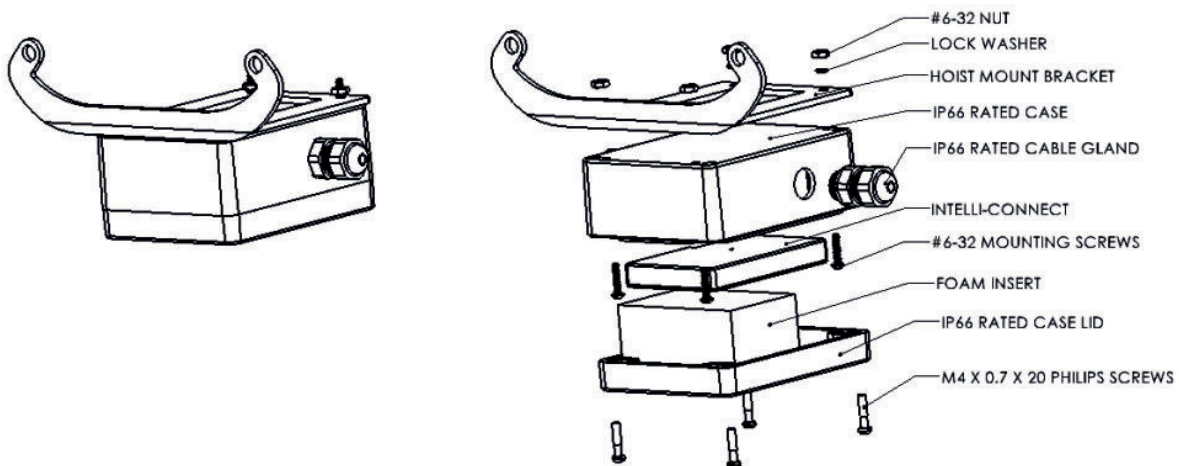
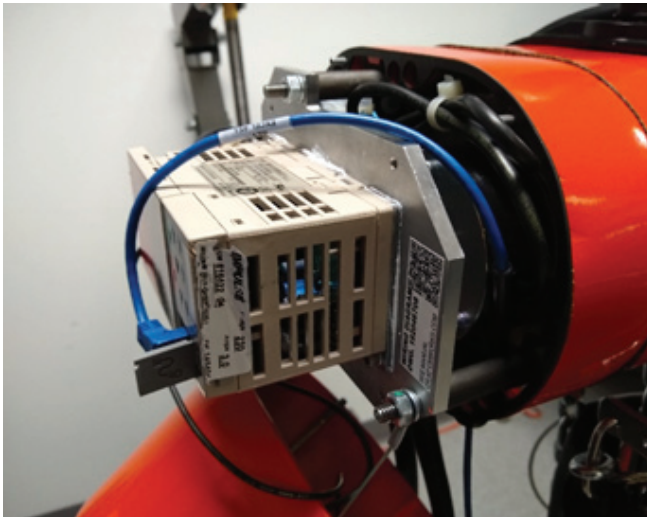
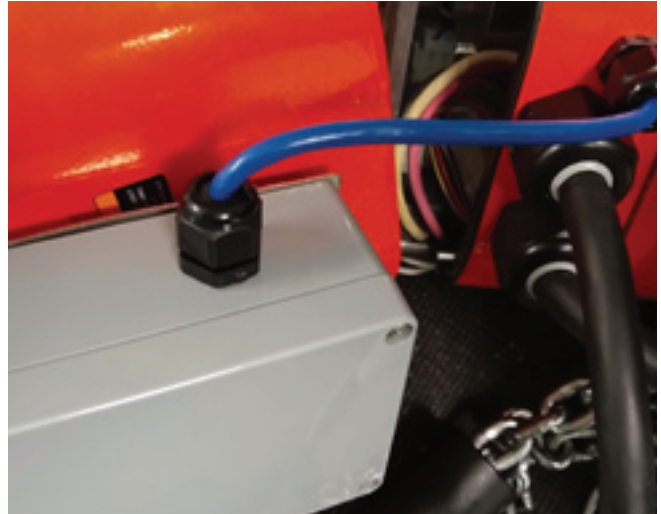

Figure 1: Pre-assembled Intelli-Connect Kit
Figure 5: Cable Routing
Figure 6: Cable Installed Between Both Glands
Figure 1 shows the V1 pre-assembled contents of the Intelli-Connect hardware kit (ethernet cord assembly and 2 replacement end cover bolts with O-ring and washer replacement as well not shown).
5. Bring the assembled Intelli-Connect kit box/bracket from **Figure 1** close enough to the hoist to plug the ethernet cord into the VFD and follow **Figure 4** and **Figure 5** for the optimal cable routing inside the hoist. A small amount of cable slack should exist between both cable glands, as shown in **Figure 6**.